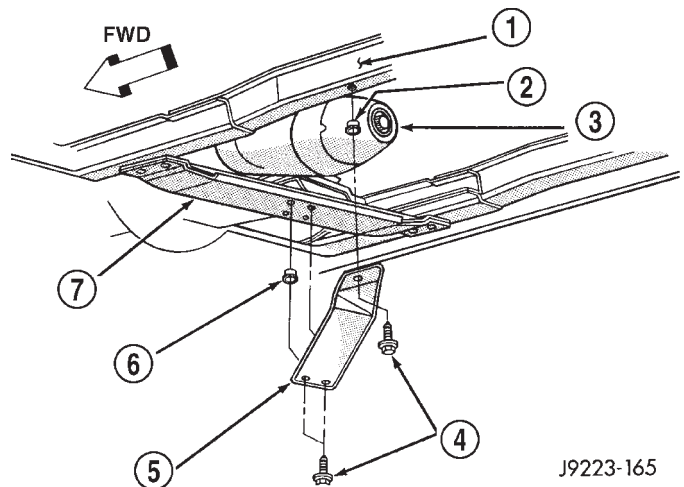

Fig. 2 Transfer Case Skid Plate
- (1) Support skid plate.
- (2) Remove bolts that attach skid plate to transmission support crossmember and frame sill (Fig. 2).
- (3) Remove support and skid plate from vehicle.